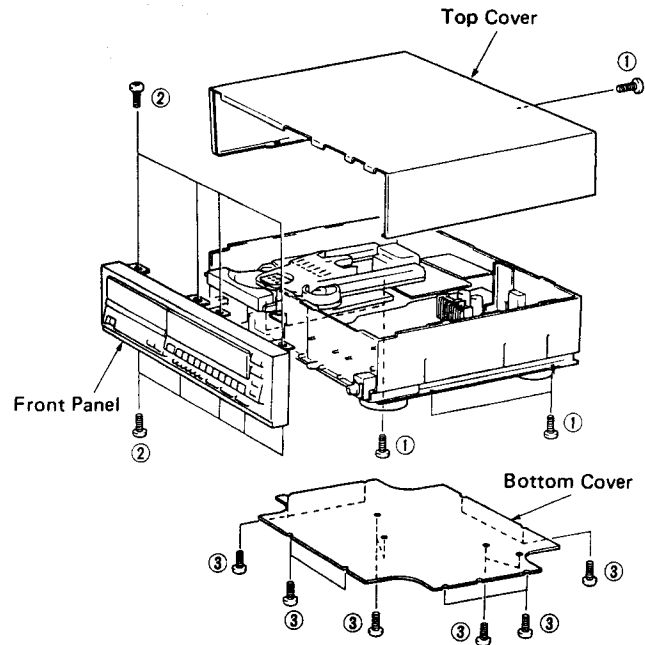

Fig. 1
- a. Remove 5 screws (①) in Fig. 1, and slide the Top Cover to the back side.
- a. Remove 9 screws (②) in Fig. 1, and pull the Front Panel forward.
- a. Remove 12 screws (③) in Fig. 1.